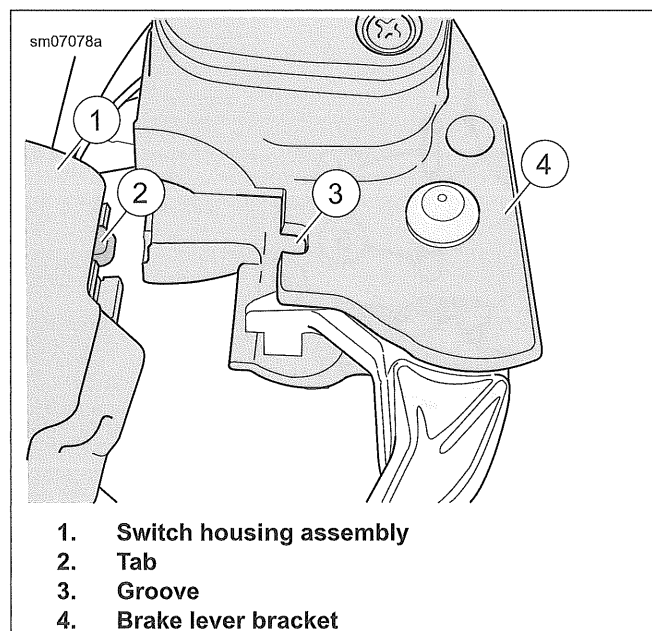

Figure 3-38. Attach Master Cylinder to Right Handlebar Switches
- See Figure 3-38. Position the brake lever/master cylinder assembly inboard of the switch housing assembly, engaging the tab (2) on the lower switch housing (1) in the groove (3) at the top of the brake lever bracket (4).